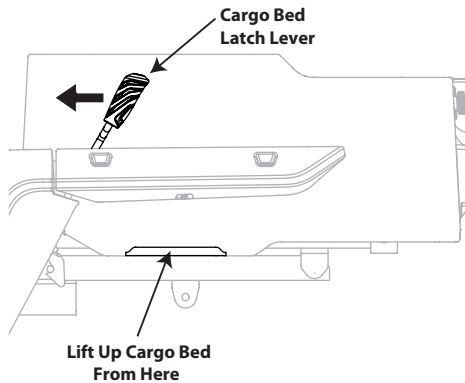

Figure 3-9
3. For light loads, unlatch cargo bed by pushing forward on the cargo bed latch lever. While holding the latch lever forward with one hand, lift the cargo bed with your other hand. See Figure 3-9.